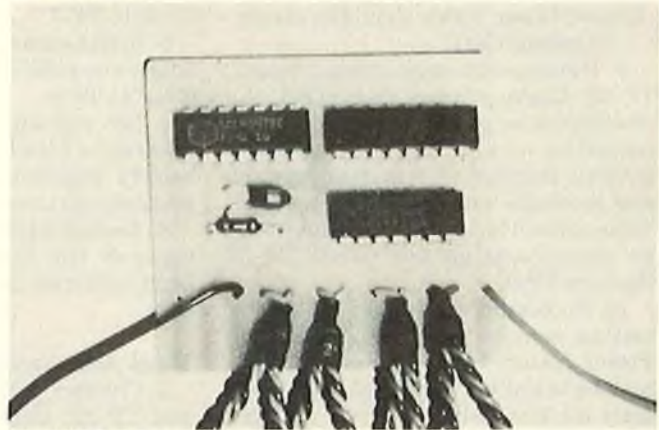

FIGURE 10
7. The red wire at TP-1 is battery positive (+); the black wire at TP-10 is battery negative (-). Install Deans connector pair to battery (see Fig. 10).